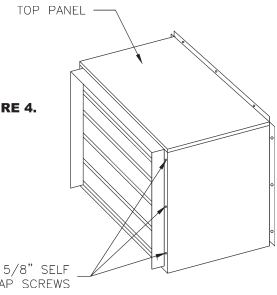

FIGURE 4.
- Mount automatic shutter to outside of fan wall housing with number 14 x 5/8" self tapping hex headed cap screws furnished. Insert top edge of shutter frame under top flange of fan box (see Fig. 4).